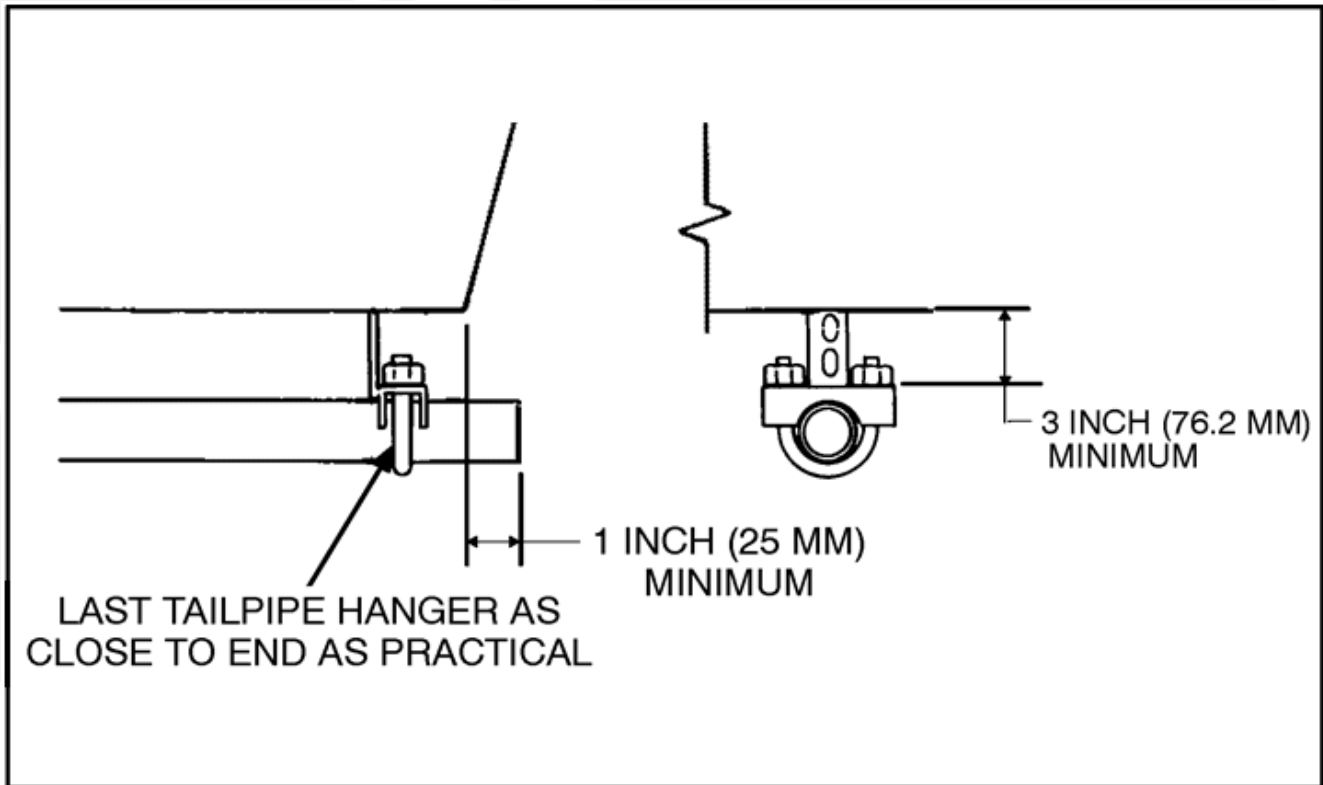

FIGURE 8. TERMINATING EXHAUST TAILPIPE
4. Do not terminate the tail pipe underneath the vehicle. Extend it a minimum of 1 inch (25 mm) beyond the perimeter of the vehicle (Figure 8). Support the end of the tail pipe such that it cannot be pushed inward and up under the skirt of the vehicle.